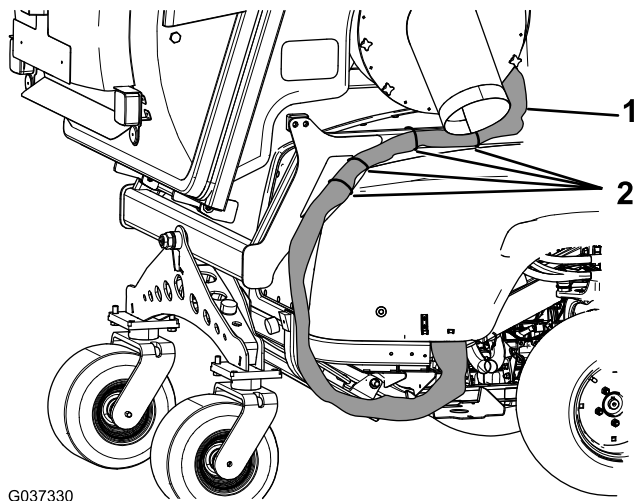

Figure 10
- Route the hydraulic hose and wire harness bundle down to the fittings you installed previously with Kit Model 30801 or 30898 (Figure 10).
- Secure the bundle to the carrier frame with 4 cable ties in the locations shown in Figure 10.